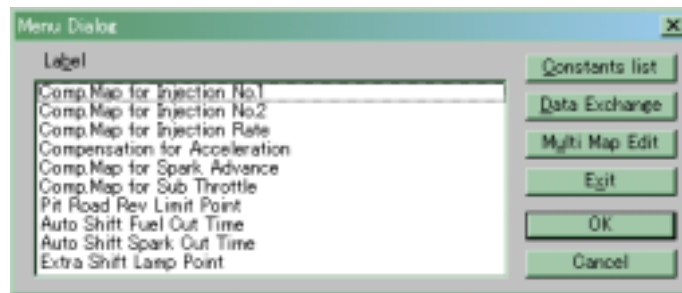

Fig. 18 Menu Dialog (in case of ZX600P)
(4) The Menu dialog screen shown in Fig. 18 appears.